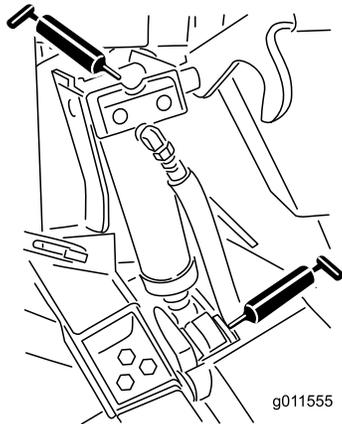

Figure 53
- 4 lift-cylinder bushings (Figure 53)